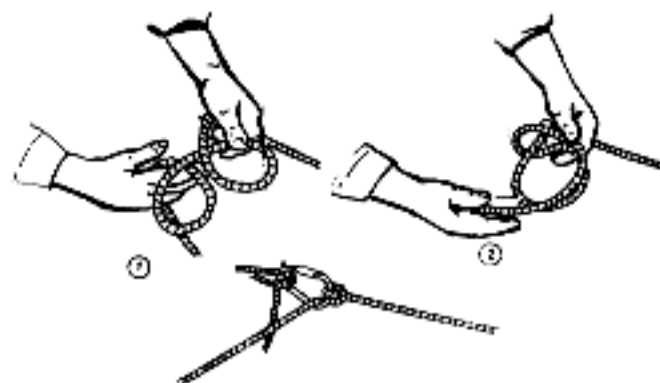

Figure 10-13. Munter hitch
(B) Munter hitch - Used for rappelling or in a mechanical belay. Loop laid alongside a bight forming two parallel "windows." Snaplink through windows (figure 10-13).